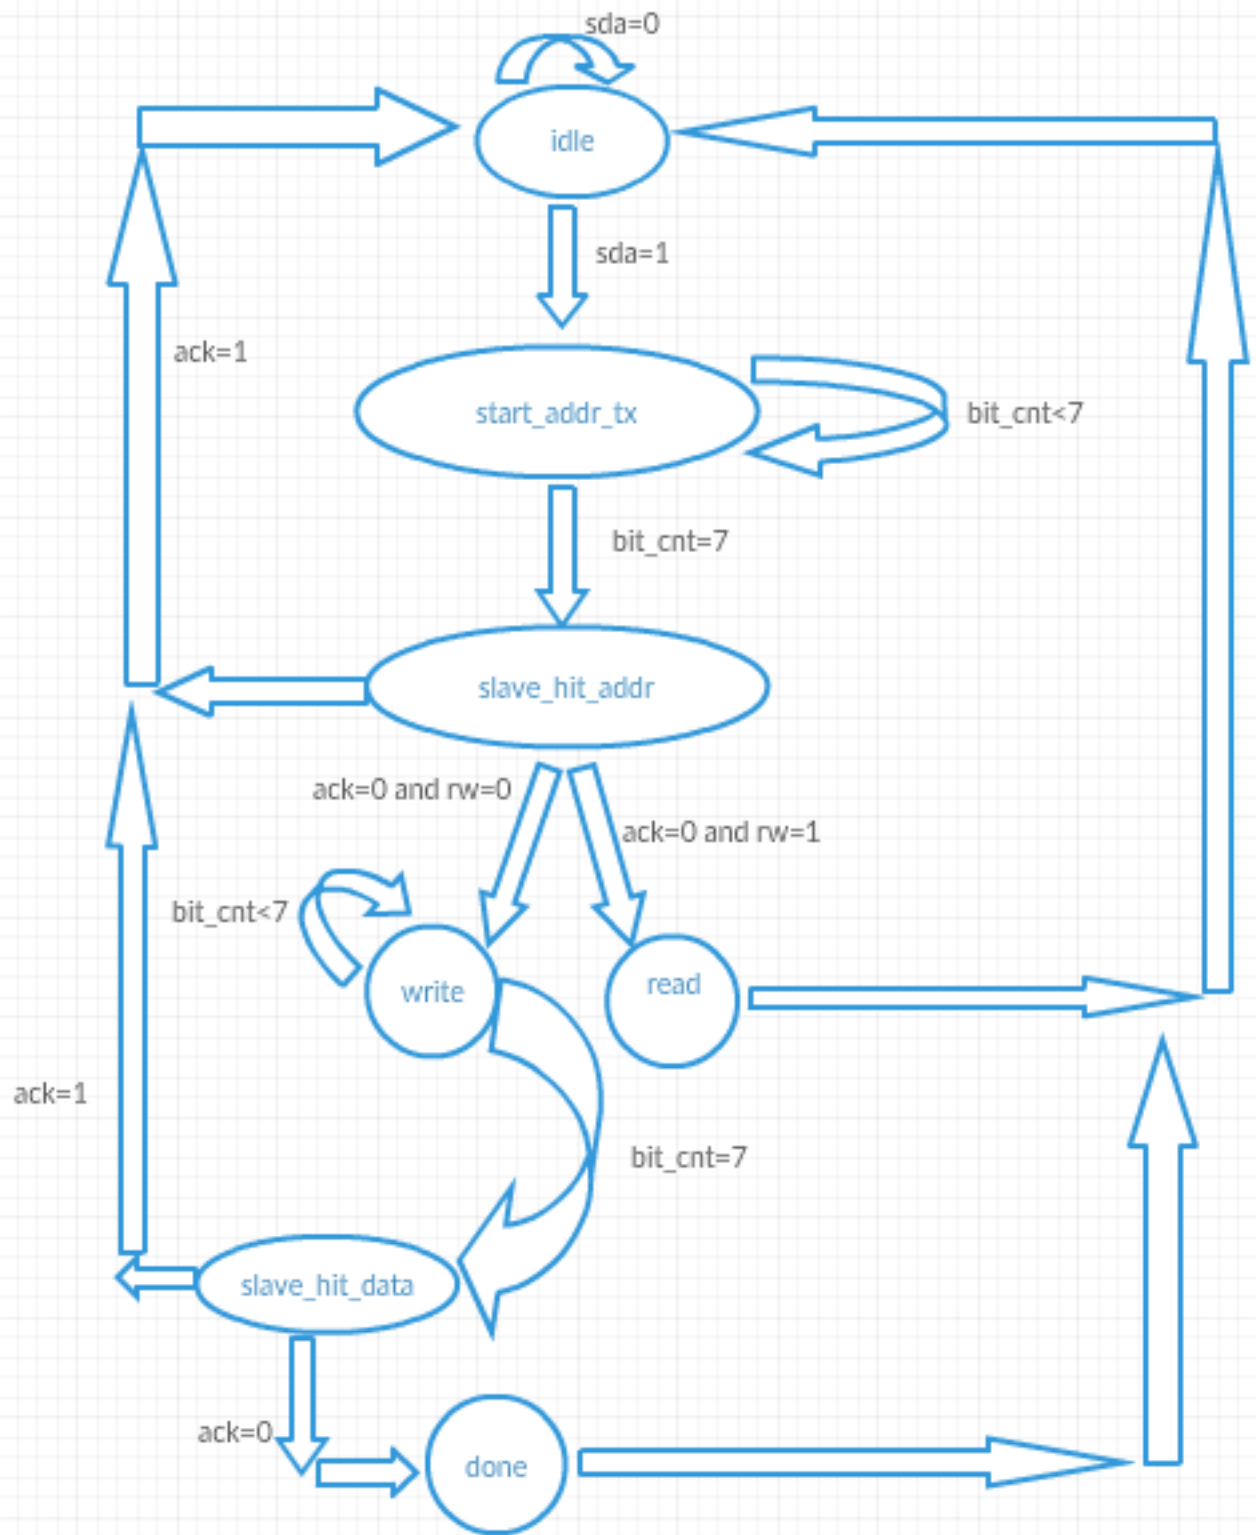

Fig. 3. State Diagram
- The I²C master we implemented uses the state machine depicted in Figure 3 to implement the I²C-bus protocol. Upon start-up, the component immediately enters the ready state (here, enters and remains in idle state till an edge trigger happens).